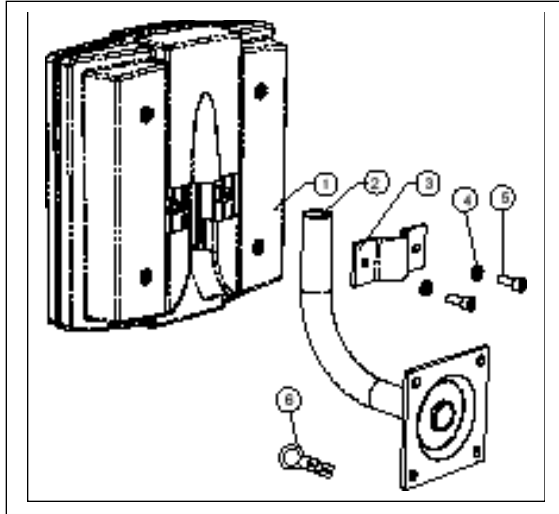

Figure 2-1 Outdoor Subscriber Unit Components
| Outdoor Subscriber Unit | 1 | See item 1 in Figure 2-1 |
| Mounting pole | 1 | See item 2 in Figure 2-1 |
| Pole clamp | 1 | See item 3 in Figure 2-1 |
| M6 washer | 2 | See item 4 in Figure 2-1 |
| M3 x M10 machine thread screws | 2 | See item 5 in Figure 2-1 |